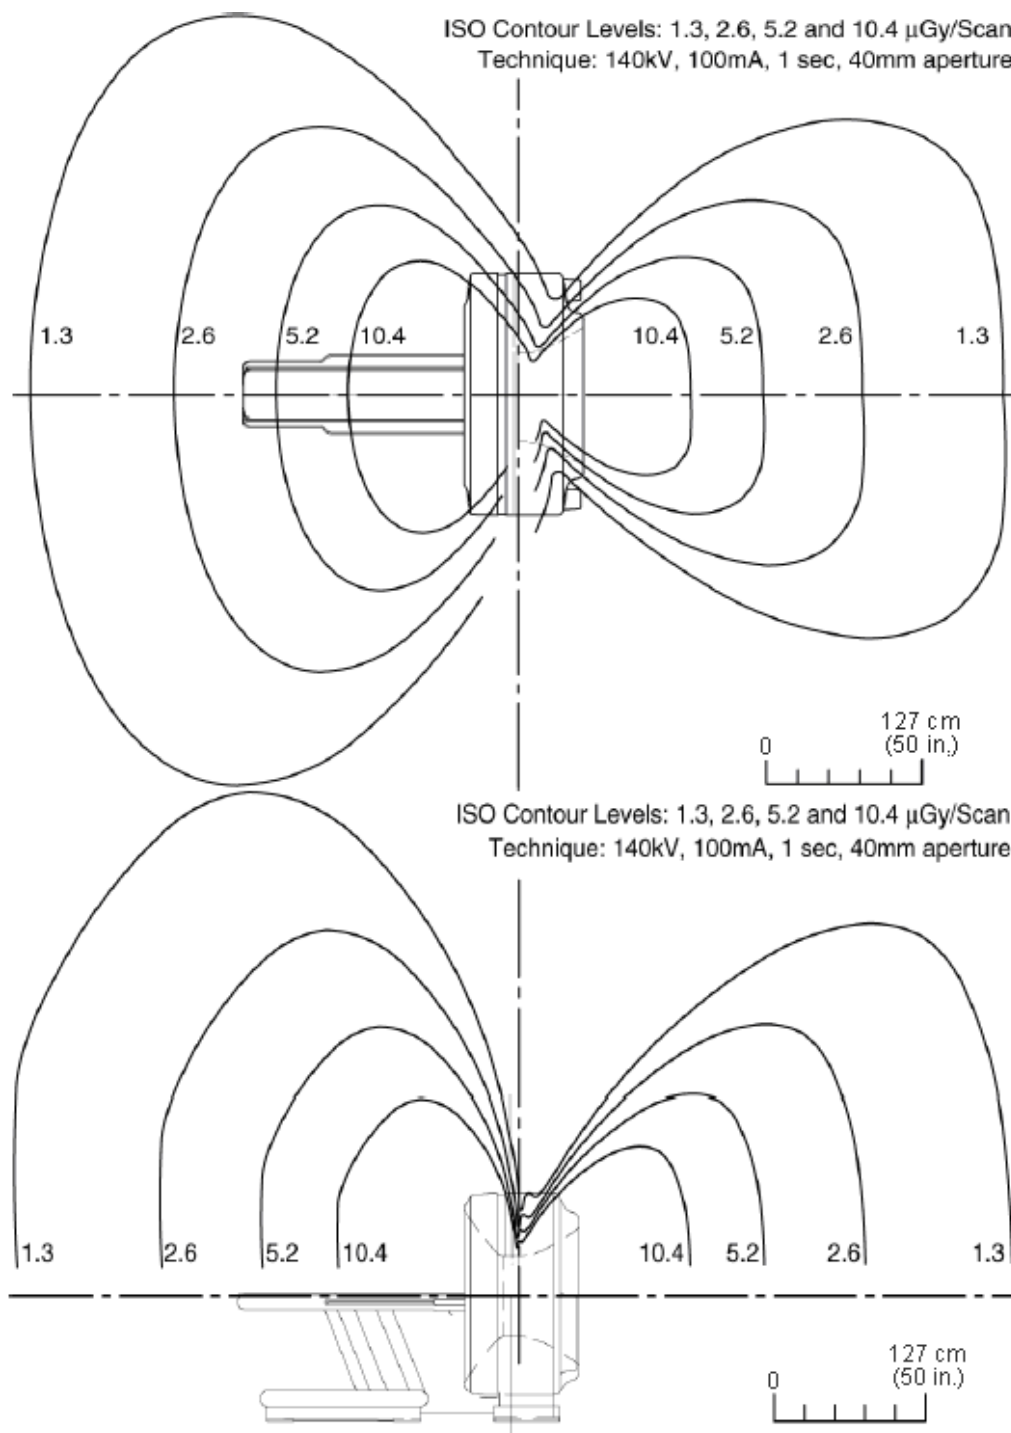

Figure 4-16 Typical Scatter Survey (Large Filter)
- Scatter radiation levels within the scanning room (see Figure 4-16)
Figure 4-16 depicts measured radiation levels within the scanning room, while scanning a 32 cm CTDI phantom and using a large filter, with the technique shown. The mAs, kV and aperture scaling factors shown in Table 4-10 can be used to adjust exposure levels to the scan technique used at the site.
For example: The exposure level for a 120 kV, 800 mA, 1 sec. scan at 50 in. away from the scan plane is: 10.4 mGy (from Figure 4-16) × 0.71 (from Table 4-10) × 800/100 (from Table 4-10) = 59.2 mGy.